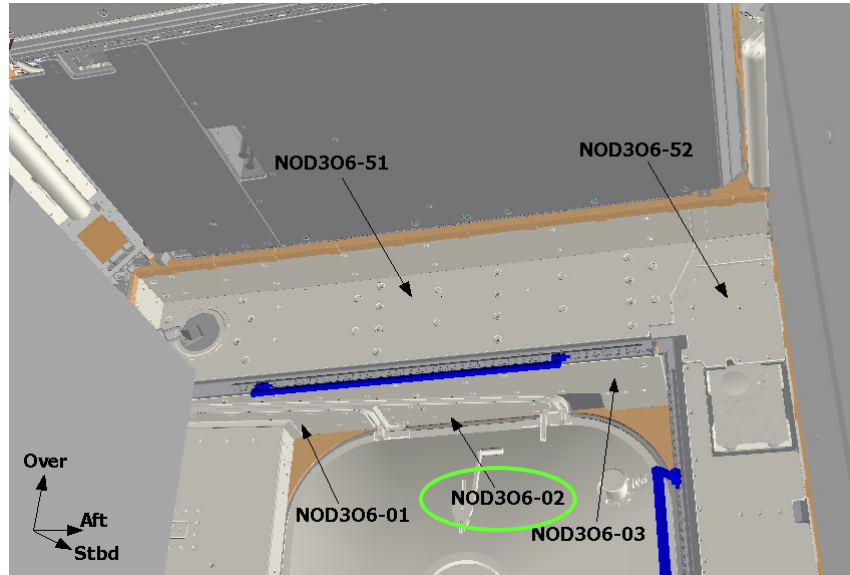

Figure 6. - Node 3 Stbd Ovhd Closeout Panels.
7.1 Remove Closeout Panel, NOD306-02, Fasteners (four) (Driver Handle, 1/4" Drive; 5/32" Hex Head, 1/4" Drive). Refer to Figure 6.